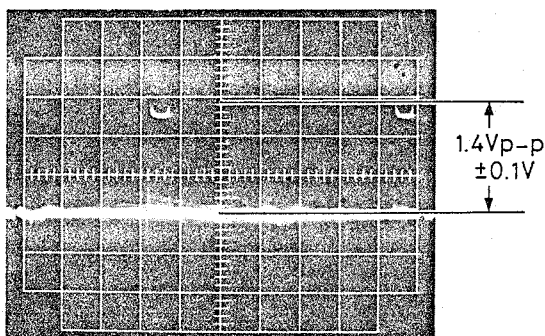

Fig. 4-13 Beam Current Adjustment
6. Adjust BEAM control (RT1324) until the waveform is clipped at $1.4Vp-p \pm 0.1V$ (Fig. 4-13).